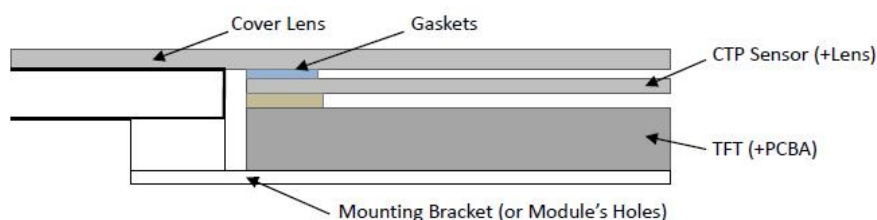

Figure3
9.3 Additional Cover Lens Mounting (Figure 3)
9.3 覆加盖板 (附图 3)